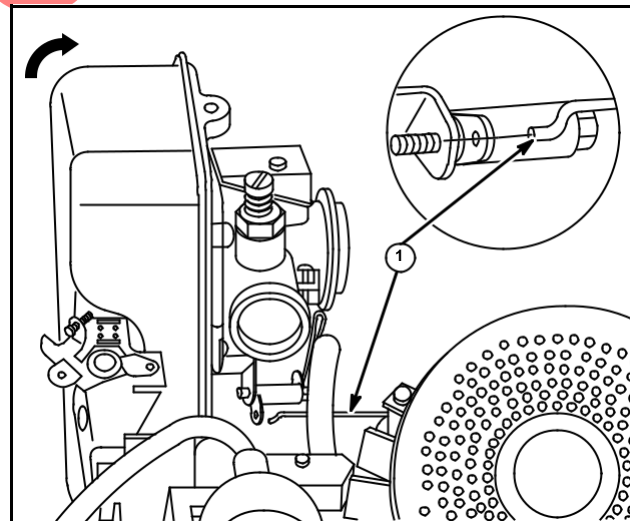

Fig. 15
2. Slide carburetor and fuel tank assembly off end of fuel intake tube and turn assembly to disconnect governor link (1) from bell crank lever.
3. This will leave governor spring and bell crank assembly on carburetor and fuel tank assembly, Fig. 15.